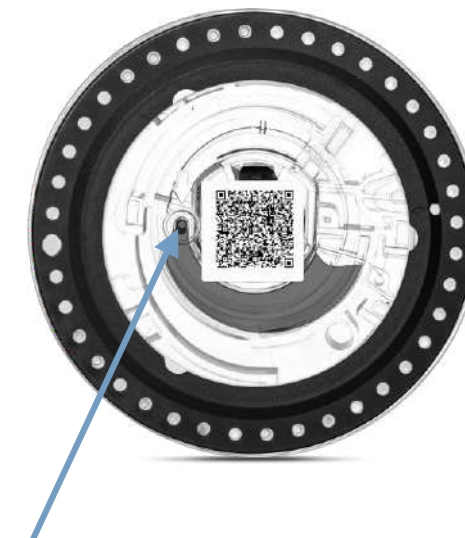

Figure 5-2
2. The amount of sample added should not be too much or too little. It should be close to but not exceeding the straight line indicated by the triangle on the reagent rotor, as shown in Figure 5-2. Too little sample volume will affect the test results, and too much sample volume will overflow the sample chamber. The standard sample amount is 100 µl.